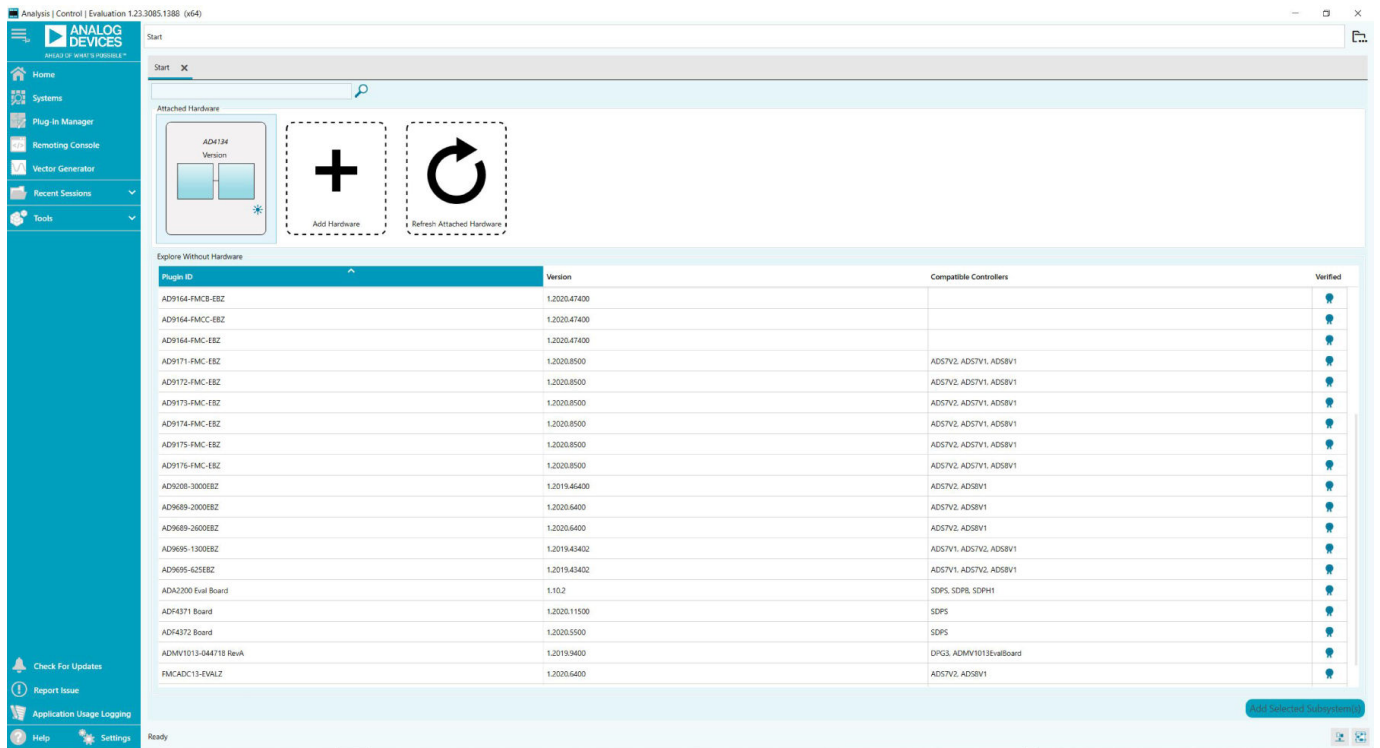

Figure 11. ACE Software Main Window
- From the **Start** menu of the PC, select **All Programs > Analog Devices > ACE > ACE.exe** to open the ACE software main window (see Figure 11).
- If the EVAL-AD4134FMCZ is not connected to the USB port via the SDP-H1 when the software launches, the **AD4134 Eval Board** icon does not appear in the **Attached Hardware** section in ACE (see Figure 11). To make the **AD4134 Eval Board** icon appear, connect the EVAL-AD4134FMCZ and the SDP-H1 to the USB port of the PC, wait a few seconds, and then follow the instructions in the dialog box that opens.